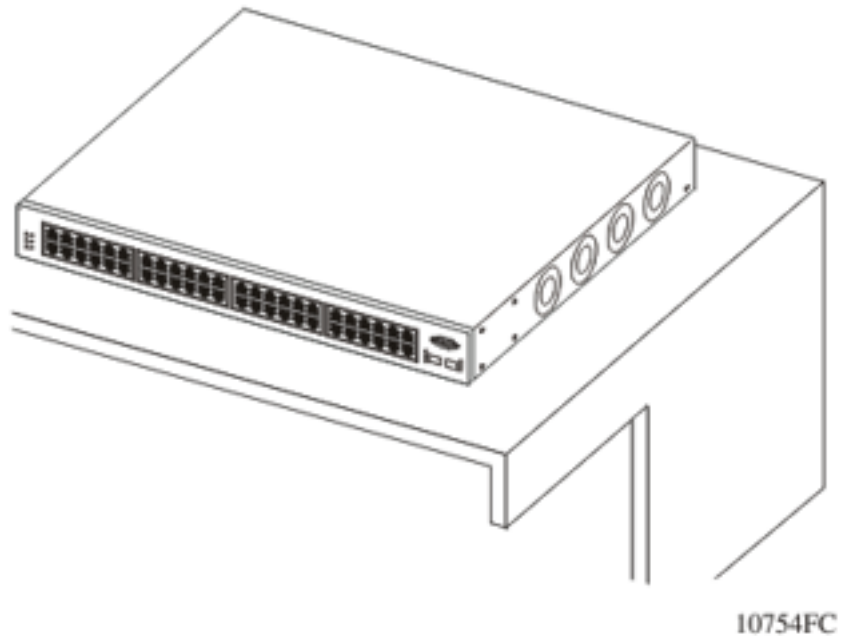

Figure 10: Ethernet Routing Switch 5000 Series on a table or shelf
2. Set the switch on a table or shelf as shown in Figure 10: Ethernet Routing Switch 5000 Series on a table or shelf on page 64. Allow at least 2 inches (5.1 centimeters) on each side for proper ventilation and at least 5 inches (12.7 centimeters) at the back for power cord clearance.